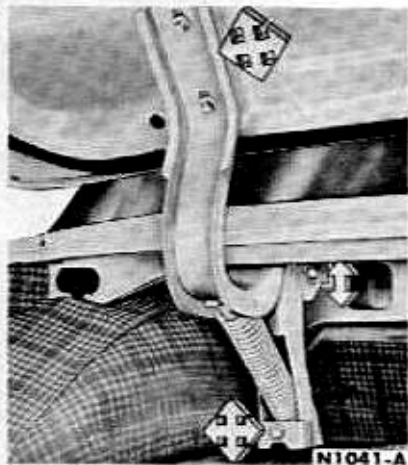

FIG. 2—Deck Lid Hinge and Adjustments
2. Remove the hinge to deck lid bolts (Fig. 2), and remove the deck lid. Remove the deck lid ornament and lock from the deck lid. If it is necessary to remove the hinge, remove the hinge bracket bolts (Fig. 2).
The deck lid can be shifted fore and aft, up and down, and from side to side as shown in Fig. 2. Care should be taken not to distort or mar the deck lid or body panel so that an unsightly appearance results.